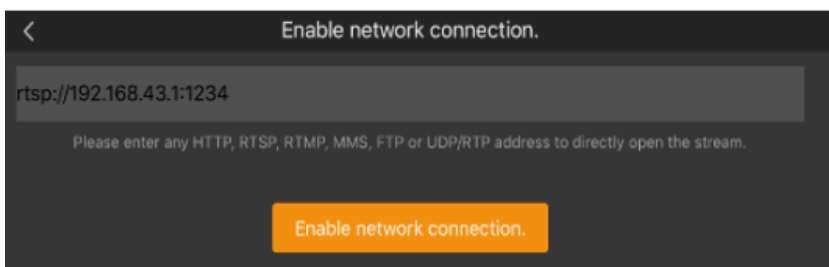

Figure 8-5-26
3. Click the "Settings" icon, enter "Connection Settings", enter the URL: rtsp://192.168.43.1:1234, click "Open Network Serial", and wait for connection (as shown in Figure 8-5-26).